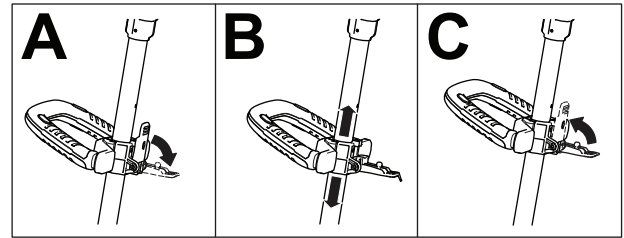

Figure 13
1. Release the auxiliary-handle latch (A of Figure 13).
2. Slide the auxiliary handle up or down to your desired height (B of Figure 13).
3. Close the auxiliary-handle latch to secure the auxiliary handle in place (C of Figure 13).